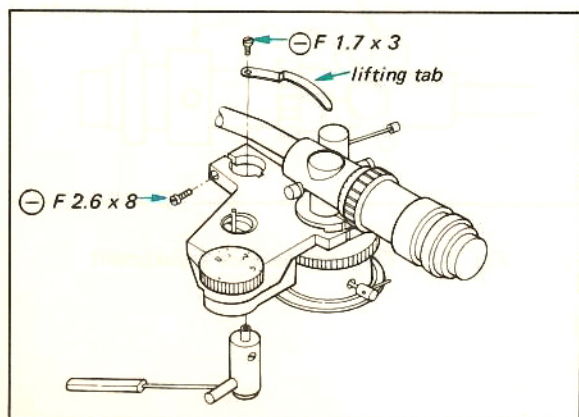

Fig. 2-14. Tonearm lifter replacement
2. Remove the screw (\ominus F 1.7 x 3) securing the lifting tab to the top of the lifter piston as shown in Fig. 2-14.
3. Loosen the screw (\ominus F 2.6 x 8) securing the lifter to the lifter base as shown in Fig. 2-14, and then depress the lifter gently. This frees the lifter.